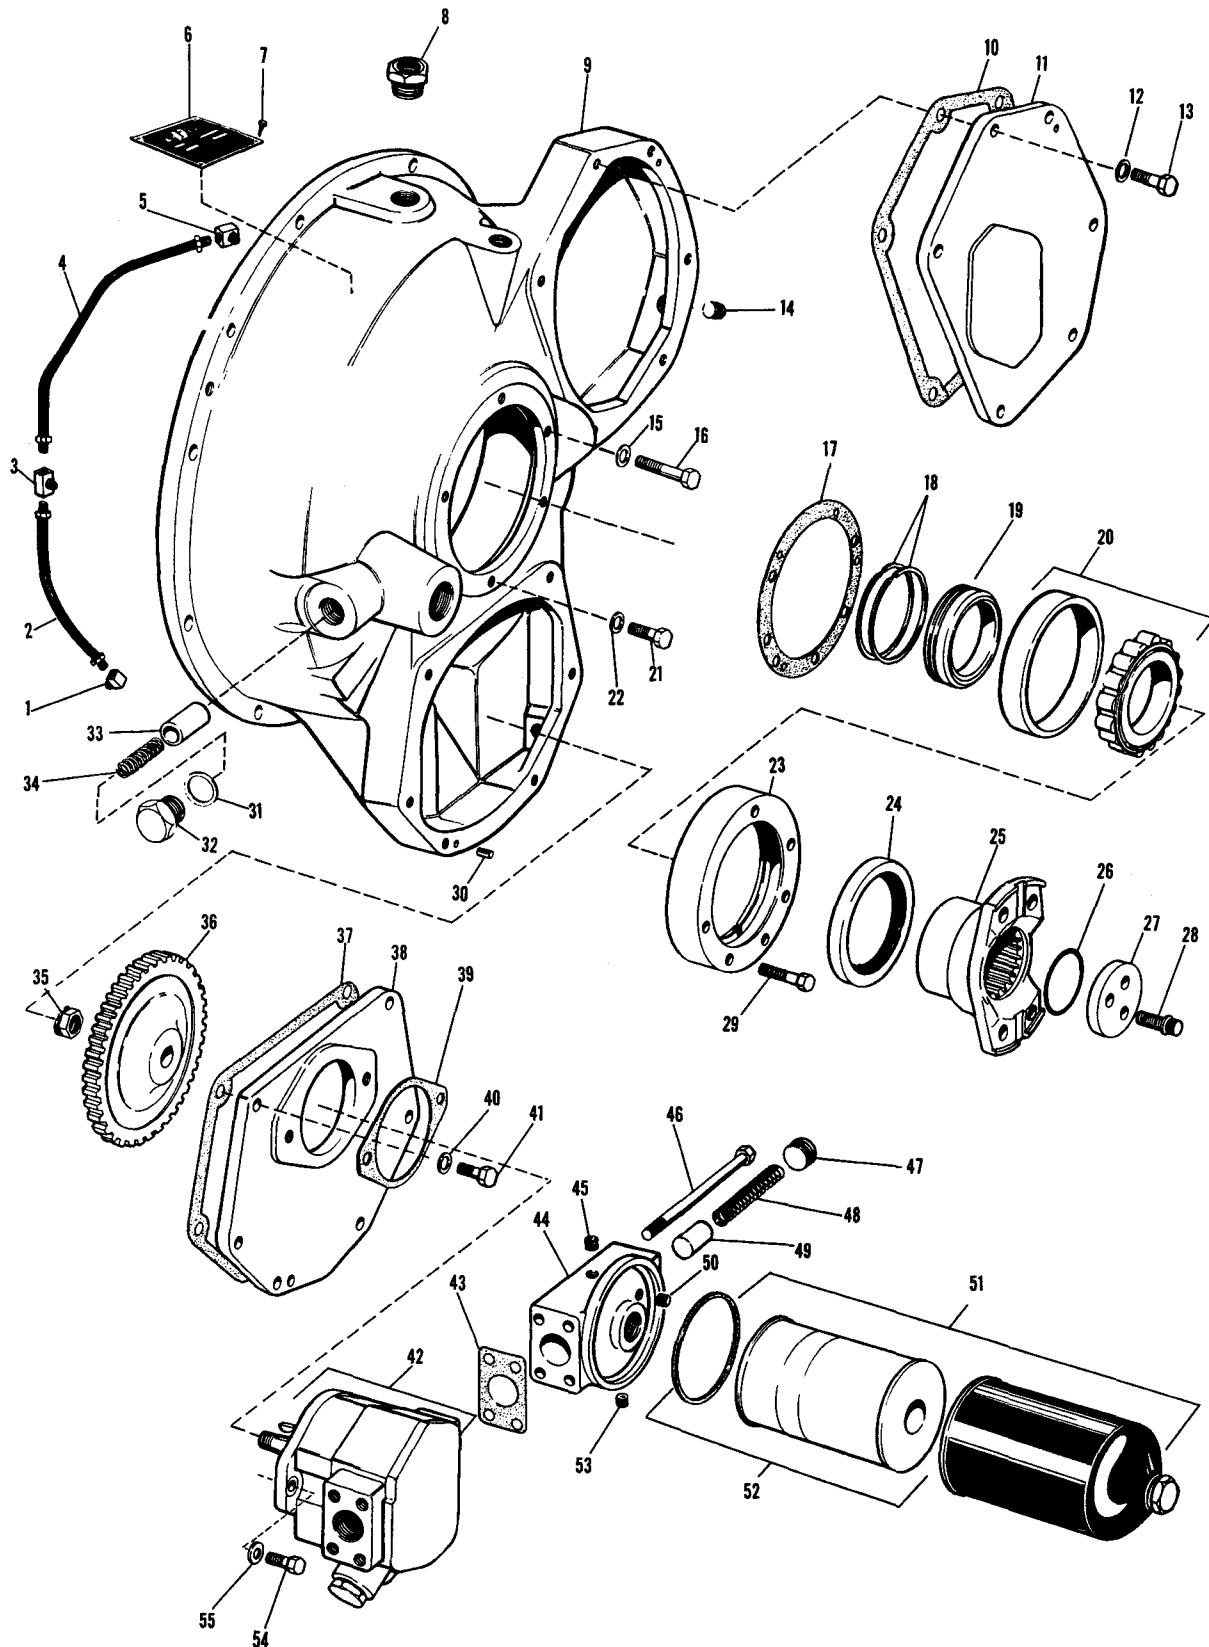

Figure 40. Model 6-F-1514 Series Single-Stage Torque Converter – Exploded View.
D. Place the cover plate (*fig. 40, 11*) and a new cover plate flat gasket (10) in position against the converter housing. Secure the plate to the housing with six 3/8-16 x 1-1/4 hex-head cap screws (13) and six new 3/8-inch copper washers (12). Tighten the cap screws to 38 lbs.-ft. torque.
E. Install the relief valve piston (*fig. 40, 49*), the relief valve piston spring (48), and the 3/4-inch square-socket-head pipe plug (47) in the filter base (44). If removal had been necessary, install the two 1/8-inch hex-socket-head pipe plugs (50 & 53) and the 1/4-inch hex-socket-head pipe plug (45) in the filter base. Tighten the pipe plugs to prevent leakage. Place the filter base, with attached parts, and a new filter base flat gasket (43) in position against the oil pump assembly, and secure the filter base to the oil pump with four 7/16-14 x 5-3/4 hex-head cap screws (46). Tighten the cap screws to 55 lbs.-ft. torque.
F. Place a new oil filter gasket and a new oil filter element (*fig. 40, 52*) in position on the filter base. Install the filter cover over the gasket and element, and secure the cover to the base by tightening the hex-head of the long, through-bolt at the top of the cover to 100 lbs.-ft. torque. After installation of the torque converter to the engine, start the engine, and permit the torque converter to come up to normal operating temperature. Again, tighten the through-bolt to 100 lbs.-ft. torque. Check for leakage. If leakage occurs, replace the gasket beneath the through-bolt and/or the gasket beneath the filter cover.
Use Figures 40, 41, 42, and 43 and the adjacent parts list for ordering spare or replacement parts in accordance with the instructions contained in Paragraphs 3 and 4.